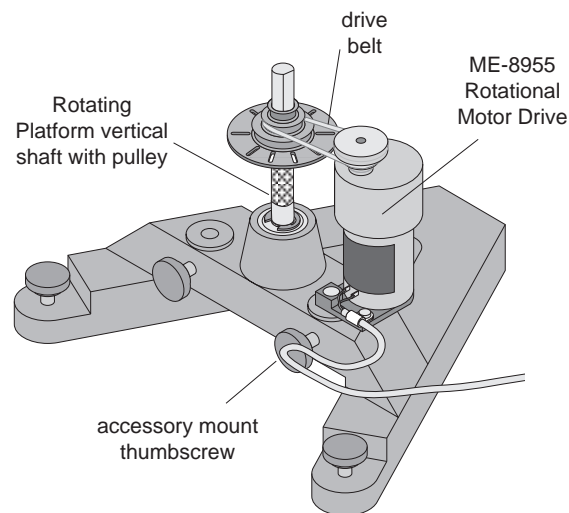

Figure 2: Rotational Motor Drive Setup
- ③ Twist the motor in its mounting hole until the belt is taut. Tighten the Accessory Mount Thumbscrew. Note orientation of Rotational Motor Drive. See Figure 2.
- ④ Set up your experiment.
- ⑤ Connect the motor to a DC Power Supply.